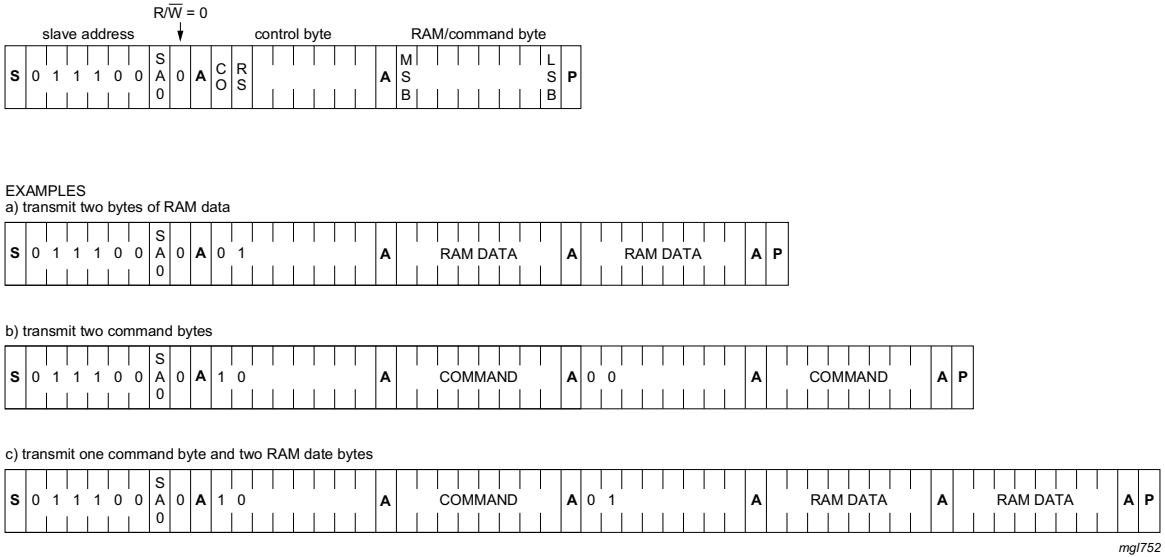

Fig 17. I²C-bus protocol
The I²C-bus protocol is shown in Figure 17. The sequence is initiated with a START condition (S) from the I²C-bus master which is followed by one of the available PCA85134 slave addresses. All PCA85134 with the same SA0 level acknowledge in parallel to the slave address. All PCA85134 with the alternative SA0 level ignore the whole I²C-bus transfer.